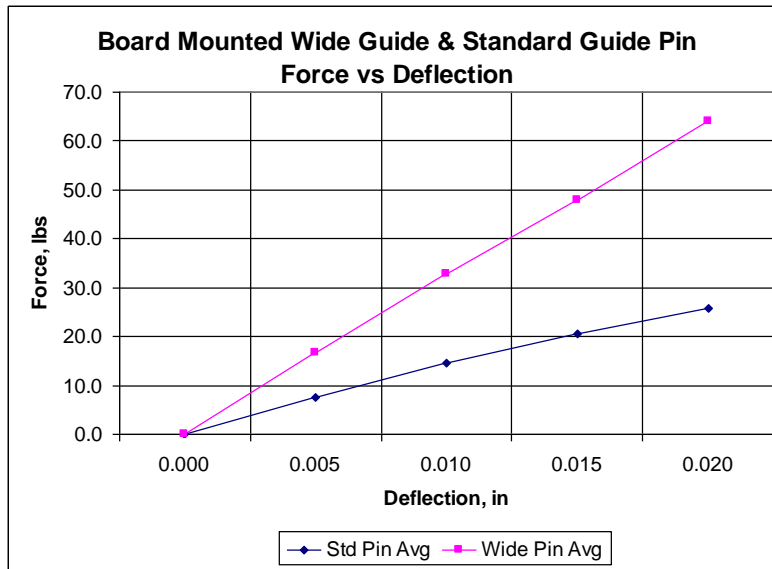

Figure 2: Guide Pin Force Vs Deflection Plot
2.5.5 For the guide pin daughtercard weight recommendations and guide pin force deflection, please refer to Table 3 and Figure 2. In addition, there is also an ESD (electro-static discharge) guide module option for all Paladin connectors.